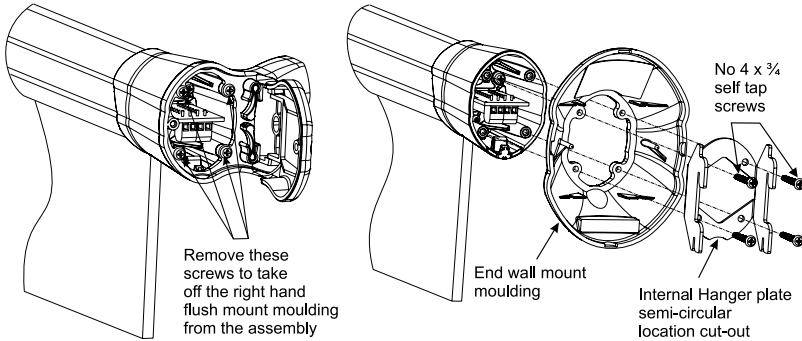

Fig 5-4: Removing the Right Hand Flush Wall Moulding Fig 5-5: Right Hand Conversion Re-Assembly
- 5) Remove the flush wall mount moulding from the end moulding by unscrewing the 4 screws visible under the cover See Fig 5-4.